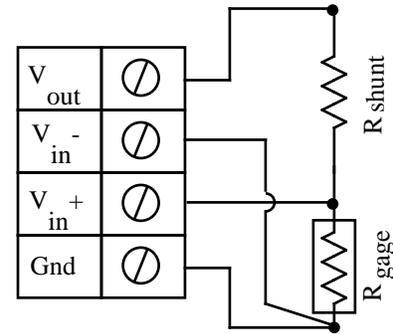

Fig 3.6- Strain Gage Measurement - Voltage Divider Circuit
8. Wire your strain gage per figure 3.6, and refer to the steps at the beginning of this chapter for more information on how to set up your sensor.5,10